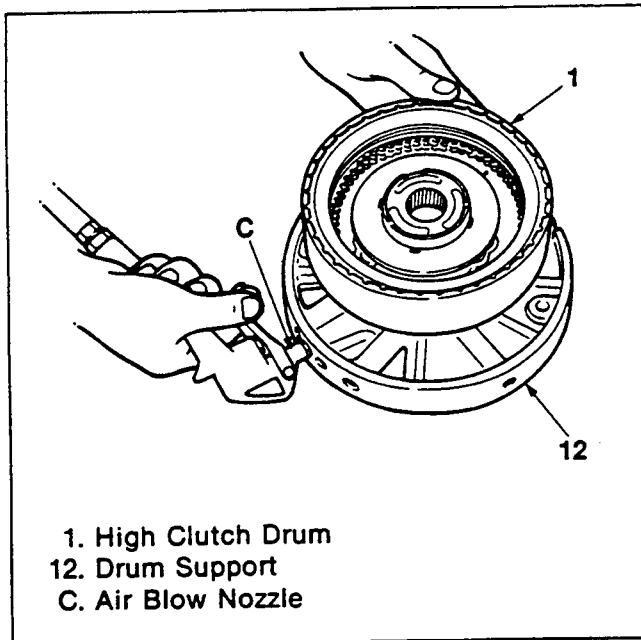

Figure 141. High Clutch Operation Inspection
3. After assembly, put the drum and support clutch together, blow 294 – 392 kPa (42 – 56 psi) air into the oil hole and check its operation (figure 141).